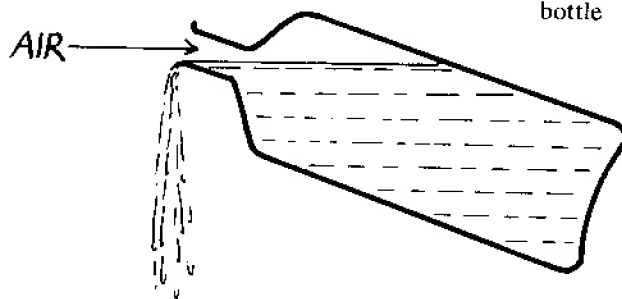

Figure 24.1 Decanting a bottle
3. Decanting. This is the method used in pouring wine in order to avoid disturbing any sediment at the bottom of the bottle. The bottle is slowly tilted so that while the liquid pours out of the neck, there is an air space above it for the air to enter (see Figure 24.1).